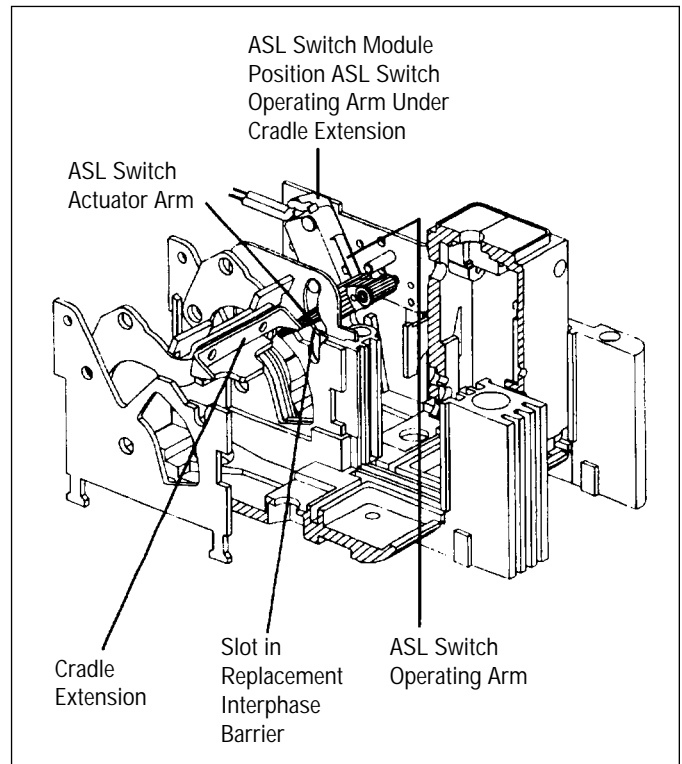

Figure 2-5 Alarm (Signal)/ Lockout Switch Installation
- b. Put tip of actuator arm through slot in interphase barrier and under cradle extension (see Figure 2-5).